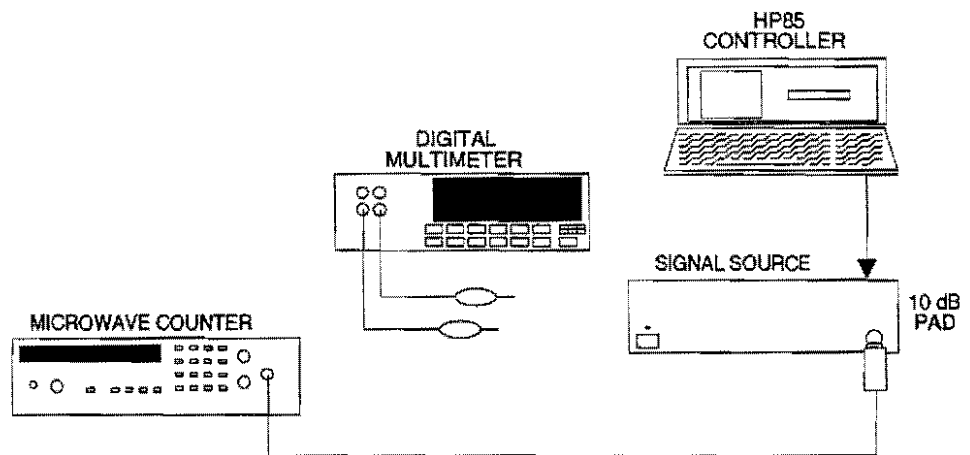

Figure 10-15. Test Equipment Setup for ALC Loop Confidence Test
Step 1. Set up the test equipment as shown in Figure 10-15.
- Step 1.** Set up the test equipment as was shown in Figure 10-15.
Step 1. Set up the test equipment as was shown in Figure 10-15.